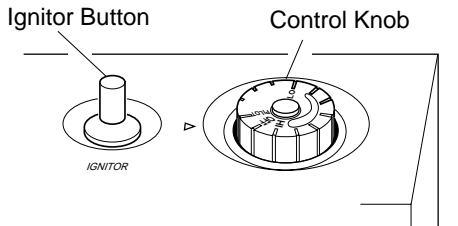

Figure 23 - Control Knob In The OFF Position
4. Wait five (5) minutes to clear out any gas. Then smell for gas, including near the floor. If you smell gas, STOP! Follow "B" in the safety information on page 13, column 3. If you don't smell gas, go to the next step.
5. Turn control knob counterclockwise to the PILOT position. Press in control knob for five (5) seconds (see Figure 23).
**Note:** If pilot goes out, repeat steps 3 through 7. This heater has a safety interlock system. Wait one (1) minute before lighting pilot again.